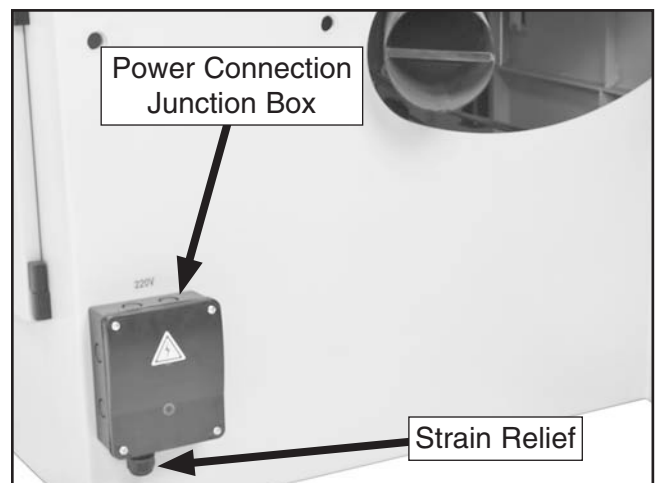

Figure 56. Location of power connection junction box.
1. Open the power connection junction box shown in **Figure 56**.
2. Feed the incoming power cord through the strain relief at the bottom of the junction box (see **Figure 56**).